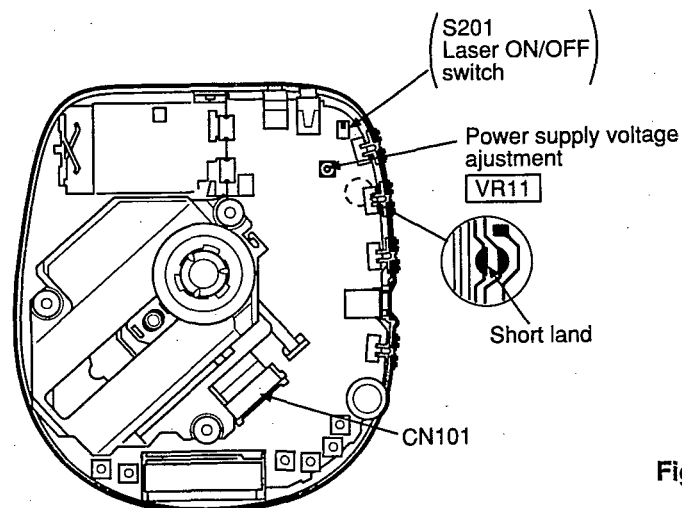

Fig. 1
Short-circuit the lands of the laser ON/OFF switch (S201) by soldering them. It turns "ON" position. (Refer to below Fig. 1. or printed circuit board and wiring connection diagram for short land location on page 26.)
2. Take care to connect CN101 (as shown in Fig.1).
| <ol style="list-style-type: none"> 1. Connect the DC voltmeter to TP103 (VCC) (+) and TP104 (GND) on the P.C.B. 2. Connect the AC adaptor cord to the DC (IN) port and move the PLAY switch to the ON position. Anti-shock is set in OFF position. (Use a new dry cell battery or a rechargeable battery that is full charged.) | <ol style="list-style-type: none"> 3. Insert the test disc, and switch the player power ON. 4. Adjust VR11 on the P.C.B. at $3.12 \pm 0.02V$, as shown in Fig.1. |